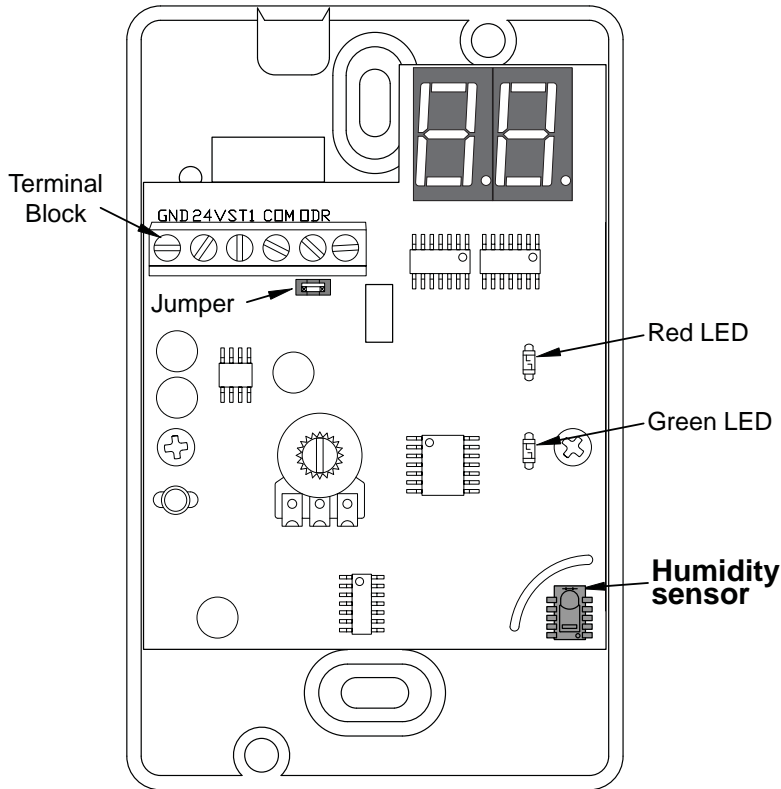
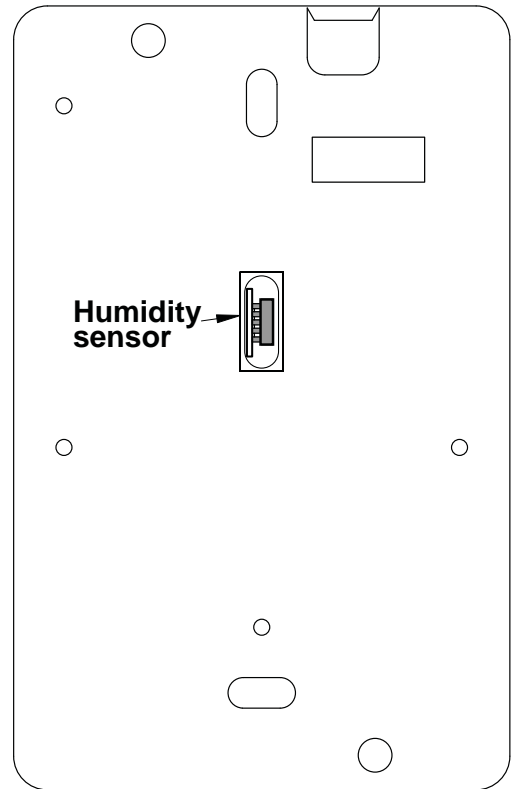

Fig. 1a Wall Mount Humidistat
Fig. 1b Back View of a Duct Mount Humidistat
1.1 The humidity sensor is not located at the same place in a wall mount or in a duct mount humidistat and therefore the two models of humidistats are not interchangeable. Please see Fig.1a and Fig.1b.